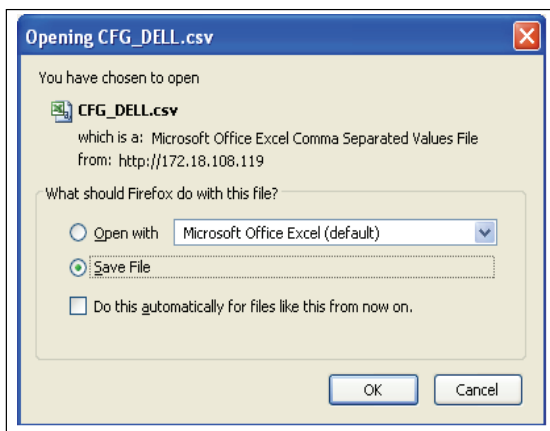

Figure 36. File Download Dialog Box
- 4 Choose to open or save the current Dell DPI configuration file and click **OK** (see Figure 36). Otherwise, click **Cancel**.